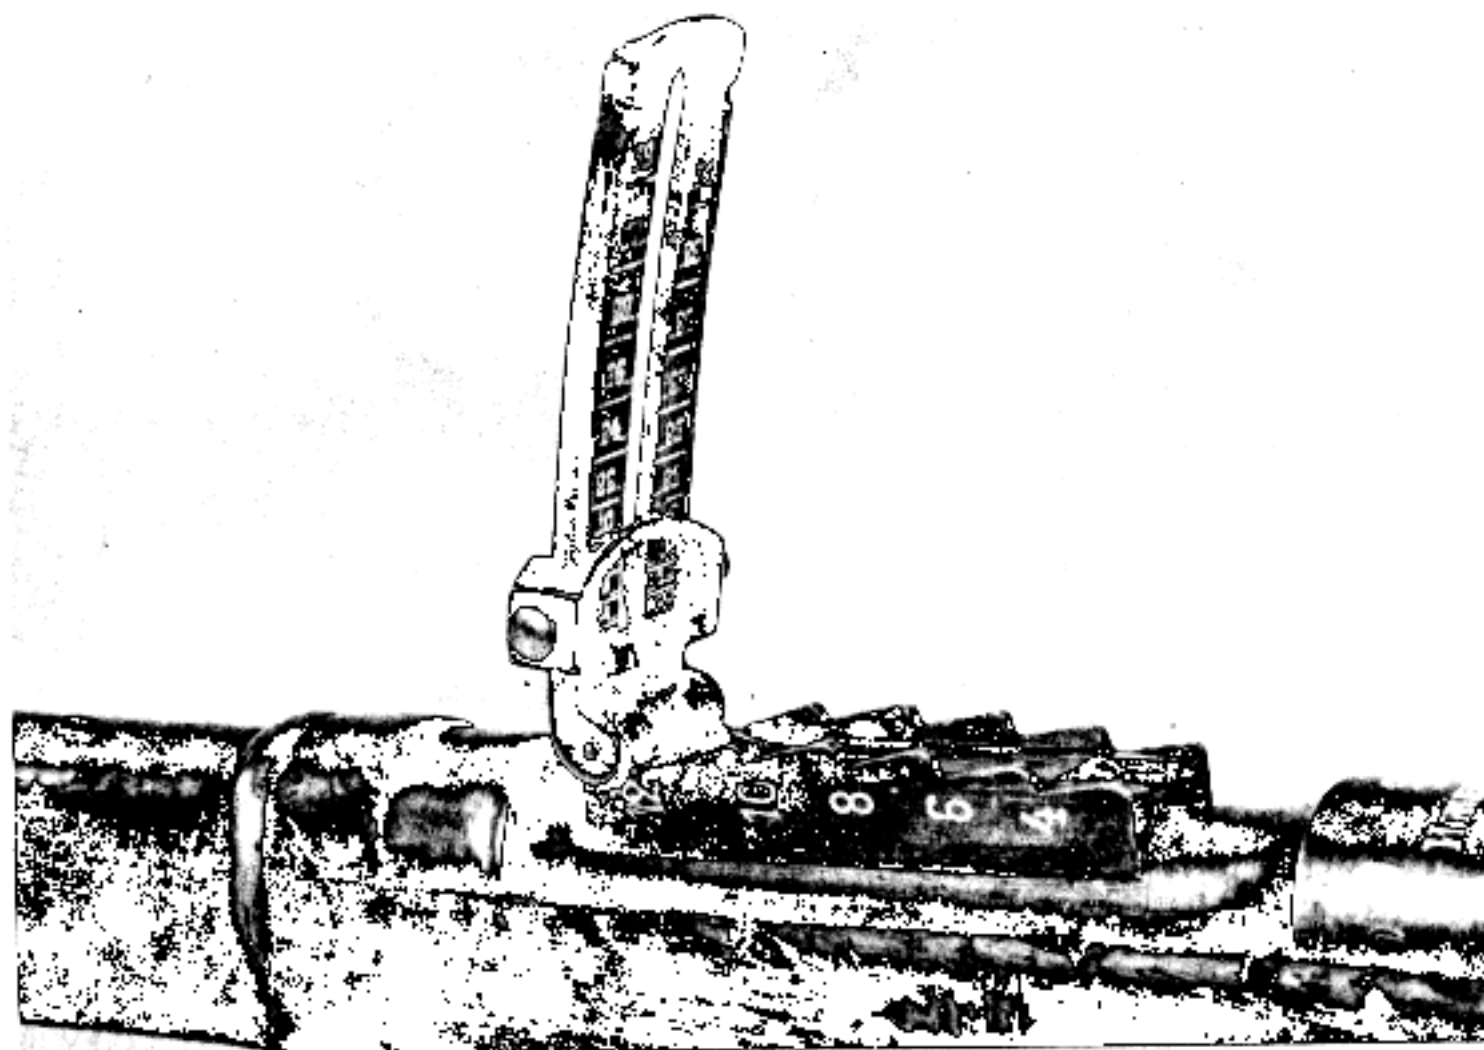

FIGURE 2. REAR SIGHT FOR RIFLE M1891.
a. This rifle has a notched-ramp leaf-type rear sight (fig. 2) which has no provision for windage. The sight is graduated from 400 to 3,200 meters (437 to 3,475 yards).